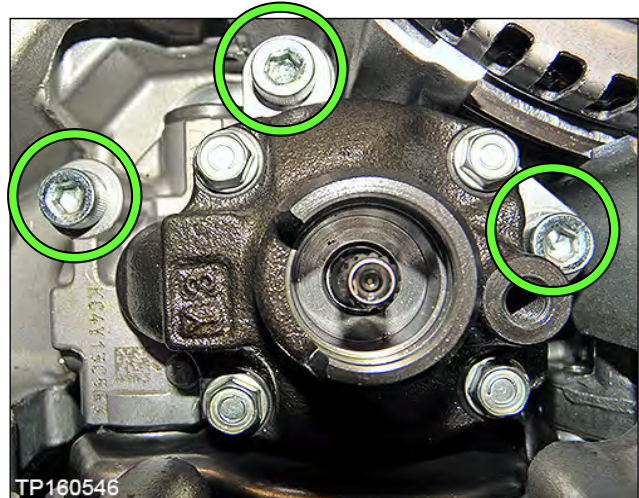

Figure 59
41. Install the new oil pump using three original Allen-head bolts (Figure 59).